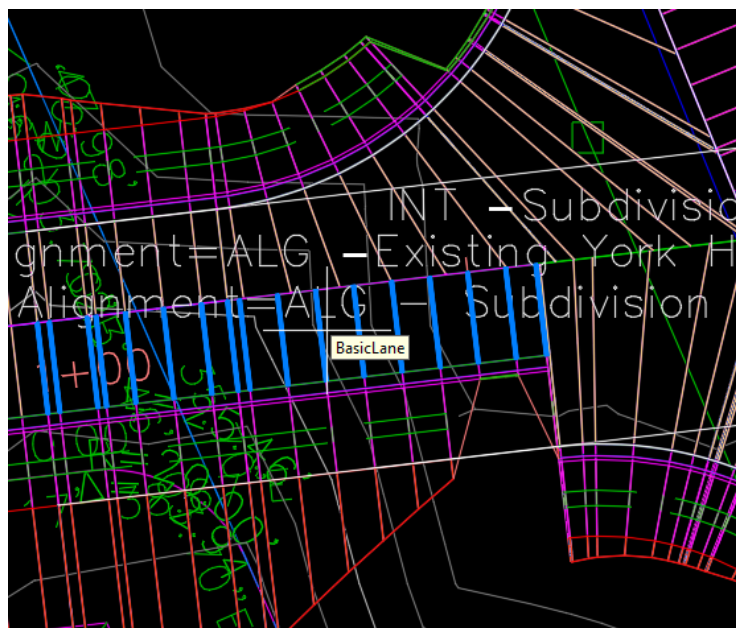

Figure 3.14 – Select the subassembly within the intersection model
3. Next, we'll be prompted at the command line with the **Select a subassembly** prompt by *subassembly name* or *[Class name]*, at which point we'll want to hover over the exit lane that approaches the updated curb return assembly, as shown highlighted in bright blue in *Figure 3.14*.